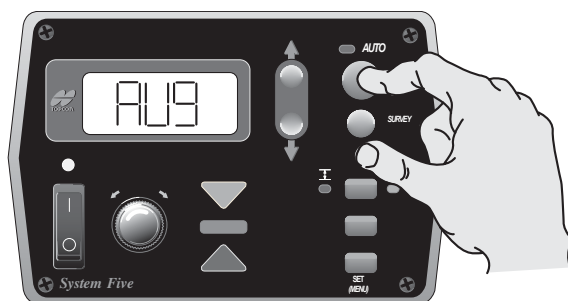

Figure 4-33. Select Averaging
1. From the Performance Menu, press the Auto button to select Averaging (Figure 4-33).